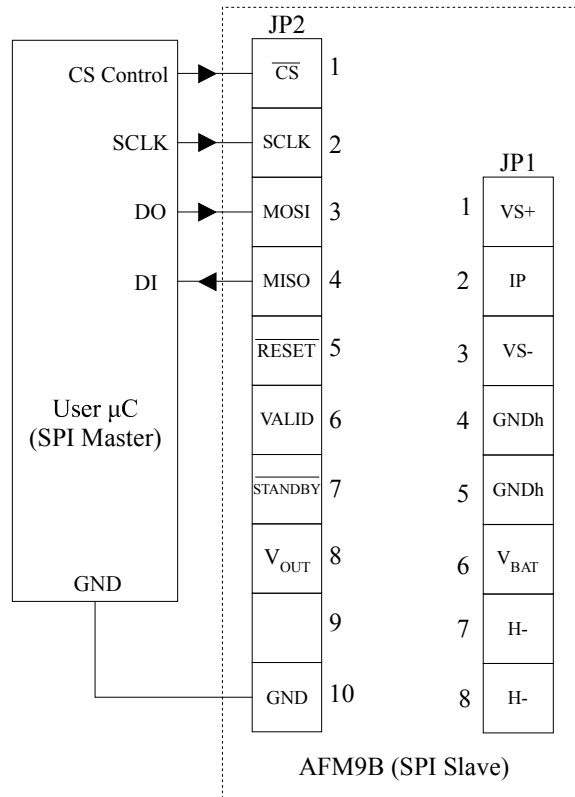

Figure 4. SPI Connections
The AFM9B is connected to a SPI master as shown in Figure 4. The AFM9B operates in SPI slave mode 0 with an alternative implementation of the Slave Select called Chip Select (CS). Table 3 lists how each connection should be configured on the user microcontroller. All signals connected to the AFM9B should adhere to the  $V_{OH}$ ,  $V_{OL}$ ,  $V_{IH}$ , and  $V_{IL}$  values in Section 11.